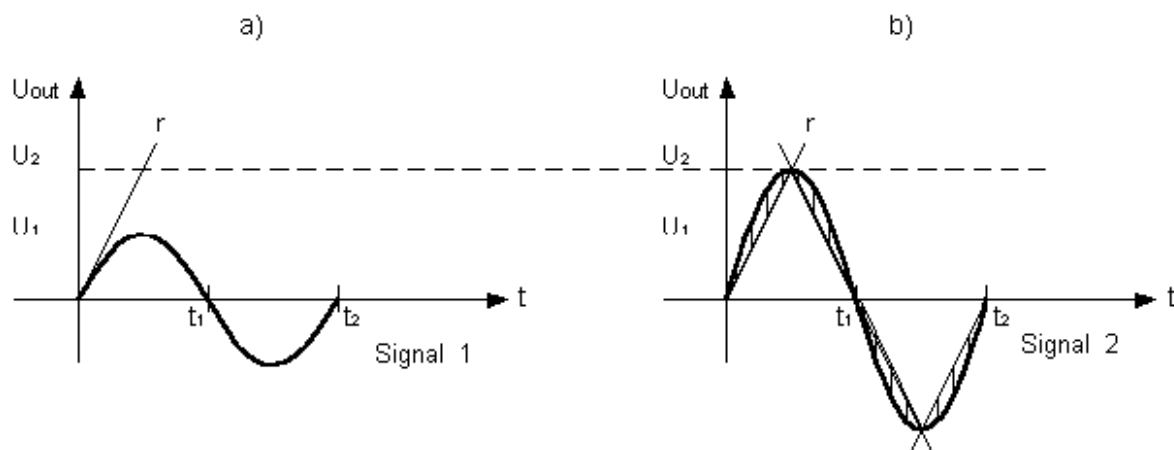

Fig. 6.5
Let's consider for example the two signals 1 and 2 with the same frequency but with different amplitude (Fig. 6.5)
- if r doesn't intersect the waveform (Fig. 6.5-a) we have no output distortions;
- if instead the straight lines intersect the waveform (Fig. 6.5-b) then the output signal will be